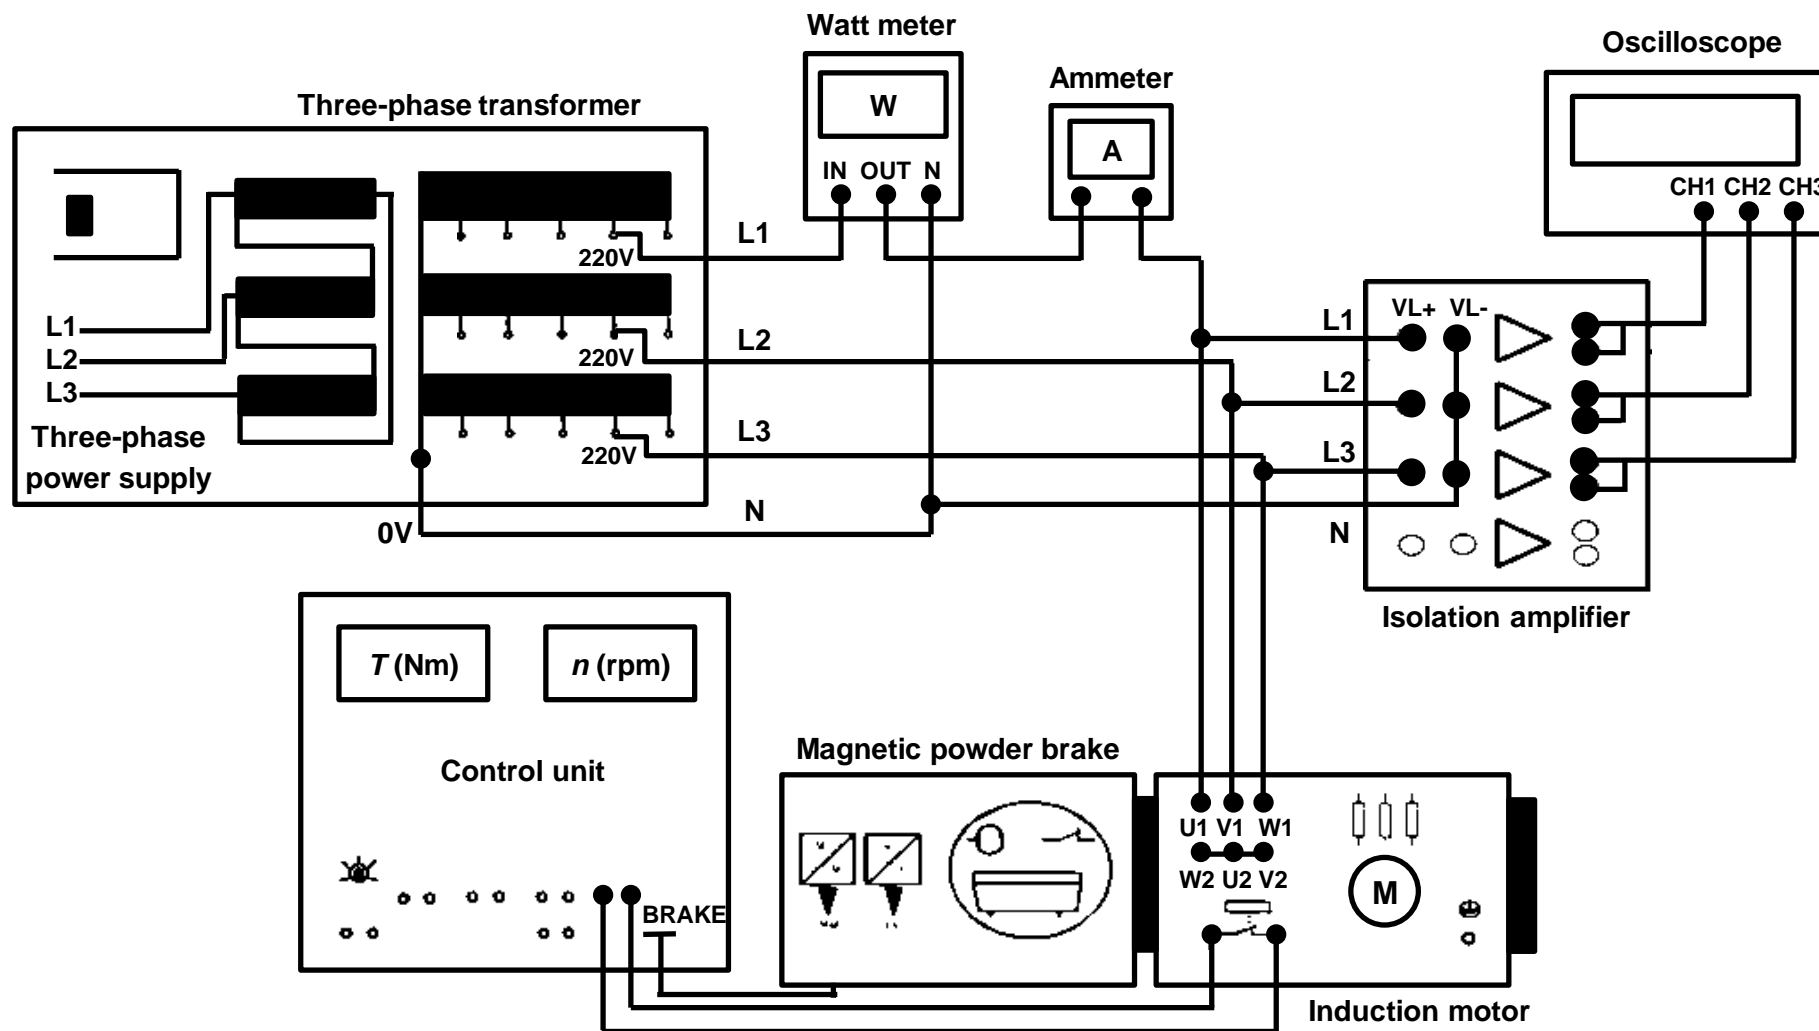
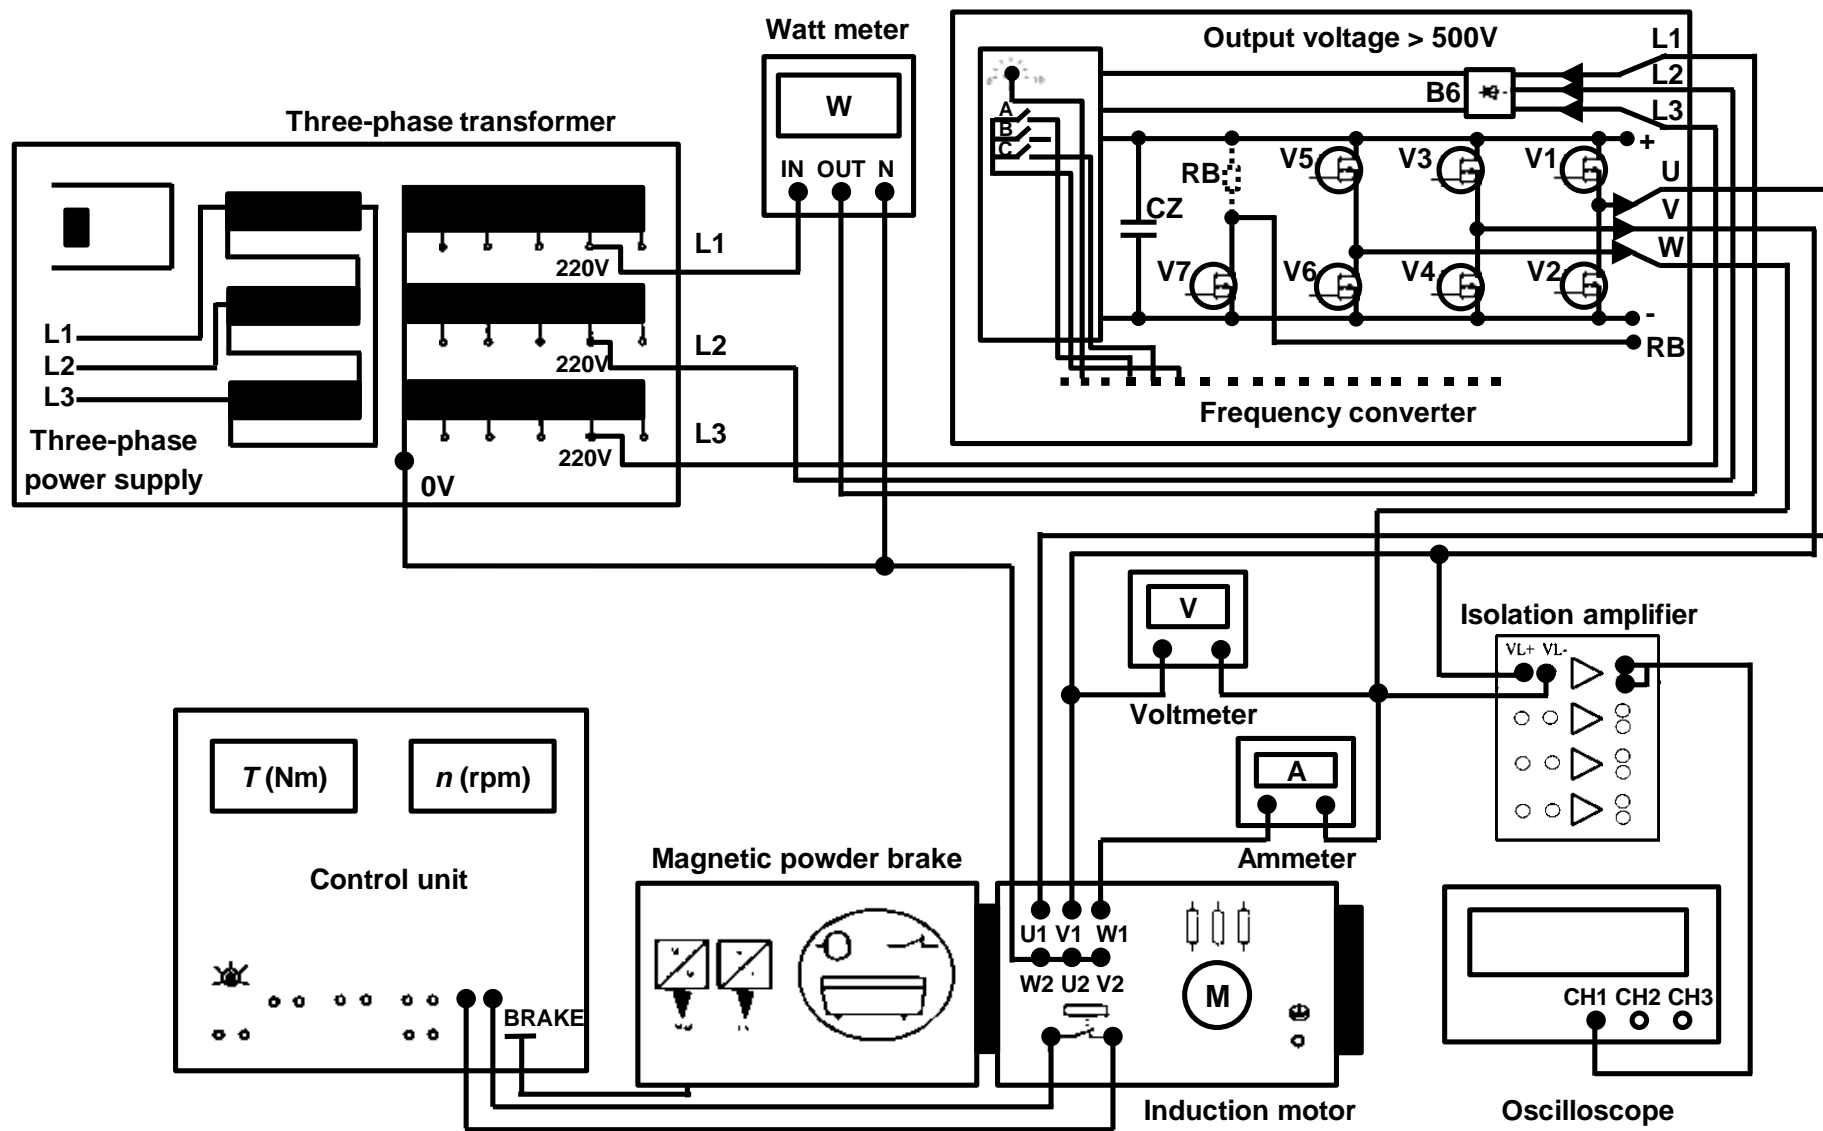

Figure 1
Figure 2
1. Assemble the circuit as shown in Figure 1. Use 220V voltage source. Make sure that the connection is checked by the lab demonstrator or technician before switching ON the three-phase power supply.
1. Assemble the circuit as shown in Figure 2, which the frequency converter is added in the arrangement from Figure 1.